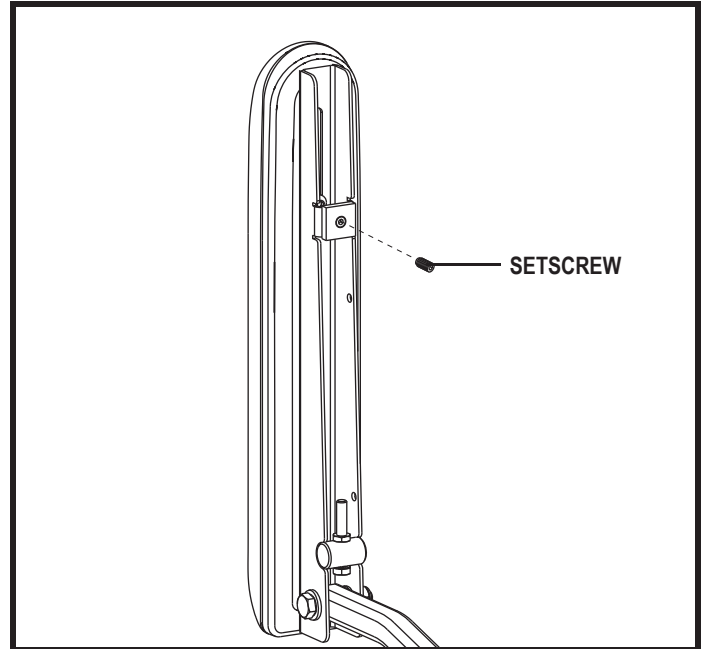

Figure 16. Underside of Armrest
2. Loosen the setscrew on the controller bracket. See **figure 16**.
5. Loosen the setscrew on the controller bracket. See **figure 16**.